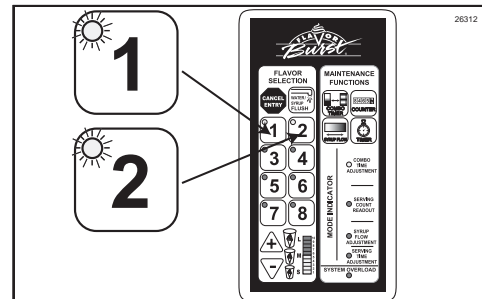

Figure 175
5. To reset the counter back to 0, select keys #1 and #2. (See Figure 175.)